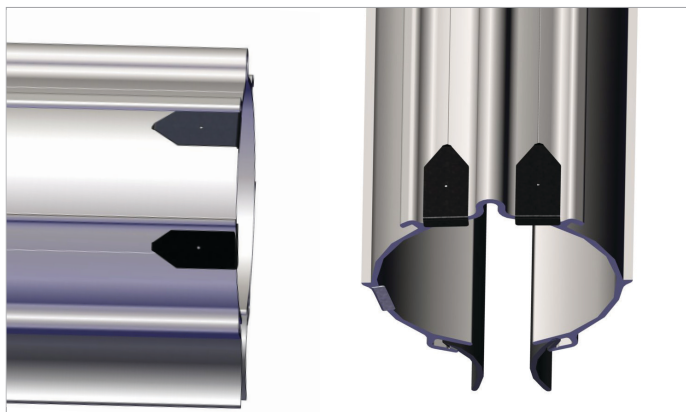

Fig. 5.3.1 Drill template on STR
- With the use of the drill template drill two 9 mm holes on each side of the rail and two 9 mm holes on top of the rail. The drill template should be placed directly in the V-groove (wing) of the rail. Refer to fig. 5.3.1.